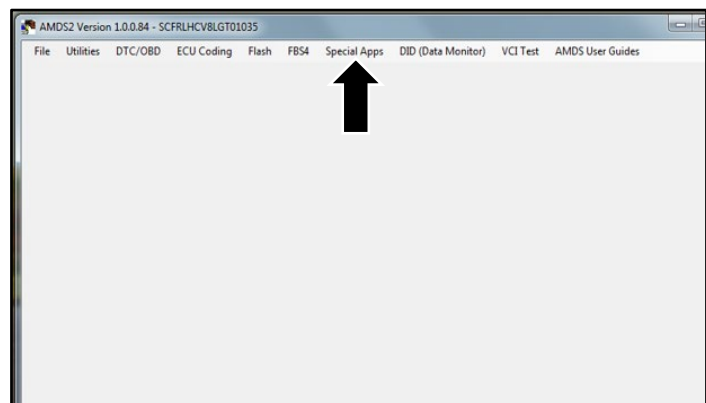

Figure 3
9. In AMDS 2.0 click the “Special Apps” button (refer to Figure 3).